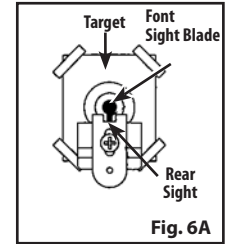

Fig. 6A
- The airgun is correctly aimed when the front sight blade is positioned exactly in the center of the notch of the rear sight. The top of the front sight blade should be even with the top of the notch in the rear sight. The bull's-eye should appear to rest on the top of the front sight (Fig. 6A).